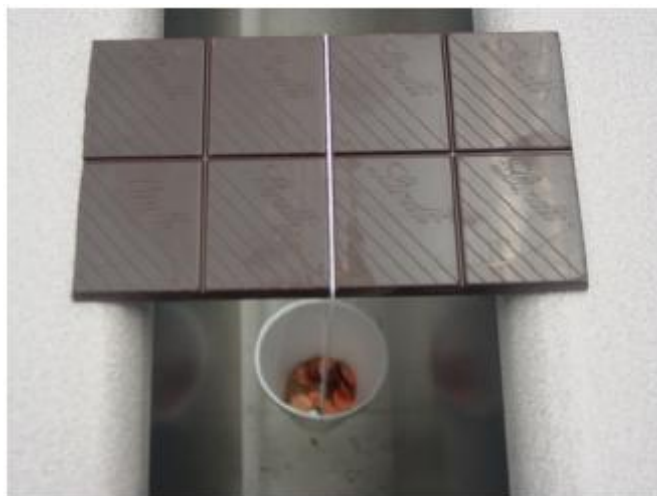

Figure 2. Chocolate bar subjected to a 3-point bending test
5. Place the twine with the cup attached across the middle of the chocolate bar so that the cup hangs freely below the chocolate bar as shown in Figure 2.